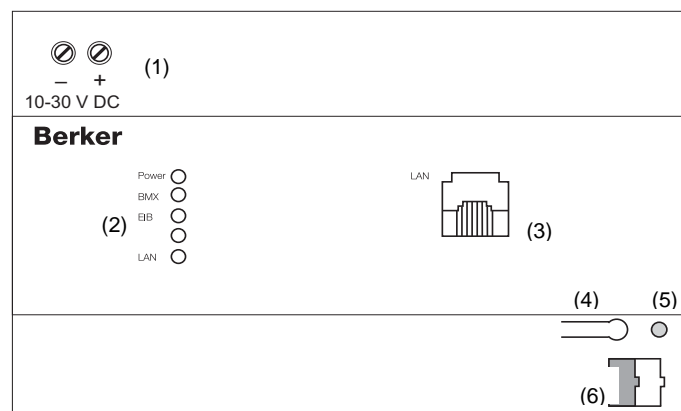

Fig. 1: Overview of the device
### Connecting the device (Figure 1)
- Connect the bus line to the bus connection terminal (Figure 1, 6).
- Connect the voltage supply according to the markings on the screw terminals (Figure 1, 1).
- Connect the network line (LAN) to the RJ 45 jack (Figure 1, 3).